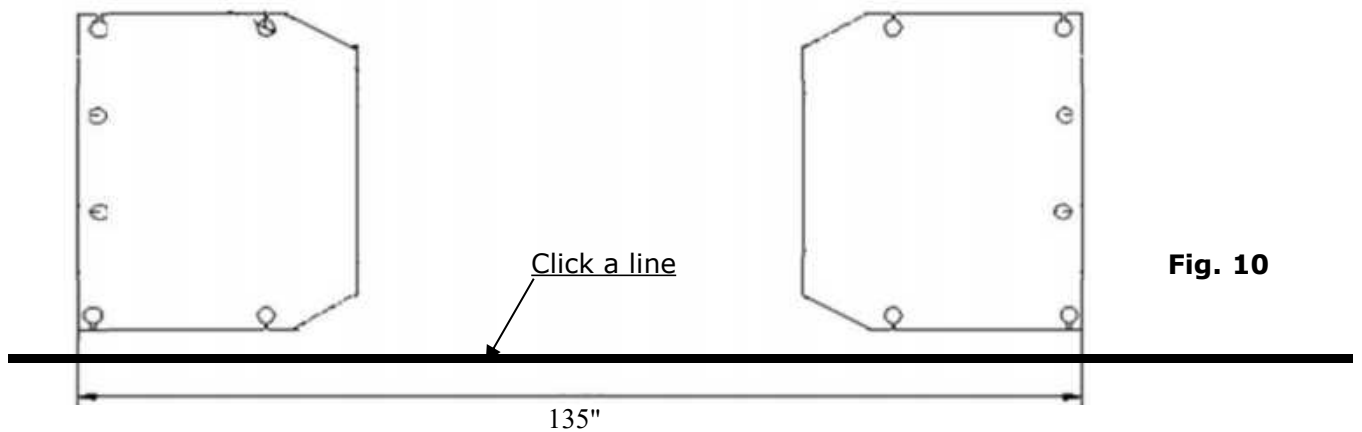

Fig. 10
B. Use a carpenter's chalk line to establish installation layout of base-plate (See Fig.10).